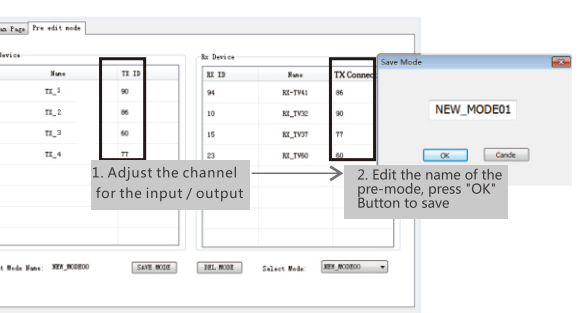

Figure 6
**Pre-operation mode editing**, show as Figure 6